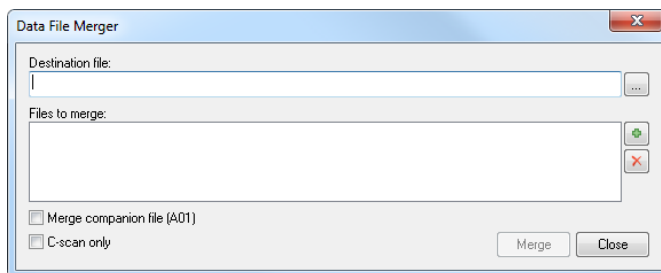

Figure 6-5 The Data File Merger dialog box
2. In the **Data File Merger** dialog box (see Figure 6-5 on page 323):